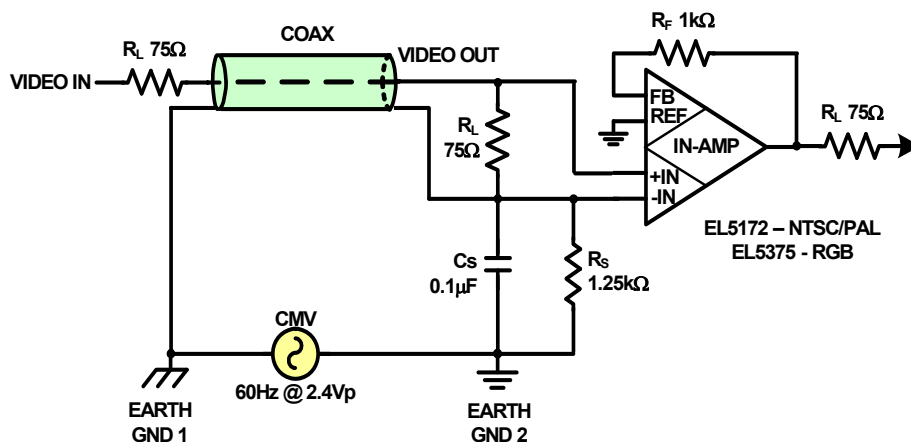

FIGURE 1. RECEIVER CMV REJECTION CIRCUIT
As stated earlier, the receiver rejection is simpler since we can use a common differential video amplifier to remove the CMV (Figure 1). First we need to terminate the coax with the typical  $75\Omega$  termination resistor. Next, buffer the incoming video with a gain of one (or two) and impedance match the output with series  $75\Omega$  impedance. We selected the differential video amplifiers EL5172 for NTSC and EL5375 (triple version of the EL5175) for RGB.
Addressing the high frequency noise induced onto the shield is simple. As in Figure 1, a single ceramic capacitor (CS) to ground of about  $0.1\mu\text{F}$ , will short high frequency noise while not having any loading effect on the line noise.